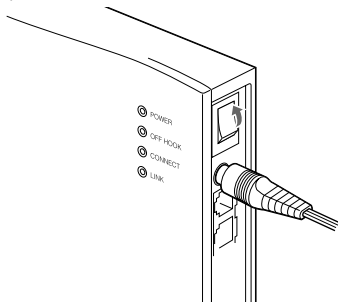

Figure 10. Turning off power
1. Push the power switch on the rear panel in the direction indicated by the arrow in (Figure 10).